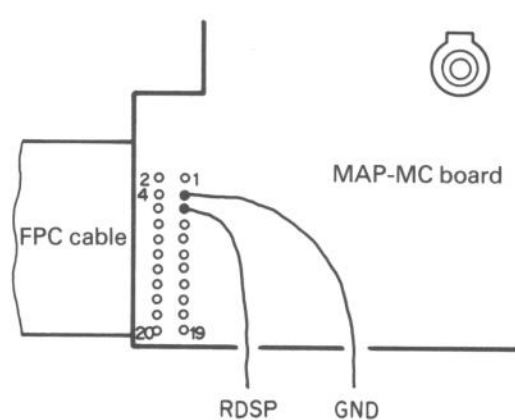

Fig. 6-18 Additional Lead Wires for Azimuth Adjustment
* If the jack connector is not available, solder two lead wires from the MAP-MC board, CN1 connector pins 3 and 5, as shown in Fig. 6-18.
Solder the lead wires to pins 3 and 5 as shown in Fig. 6-18.